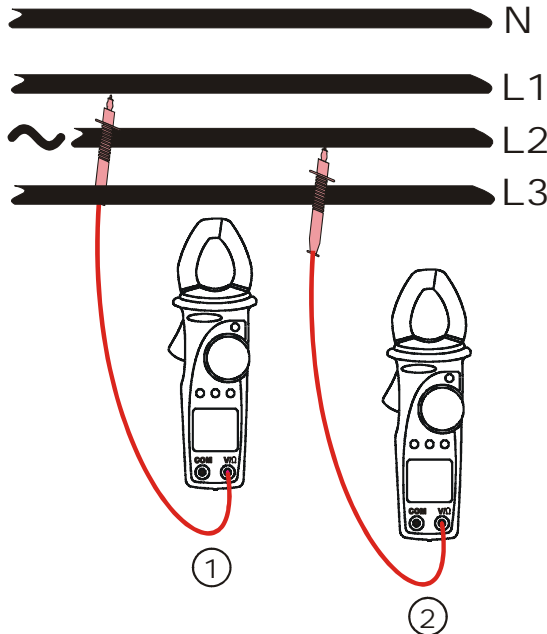
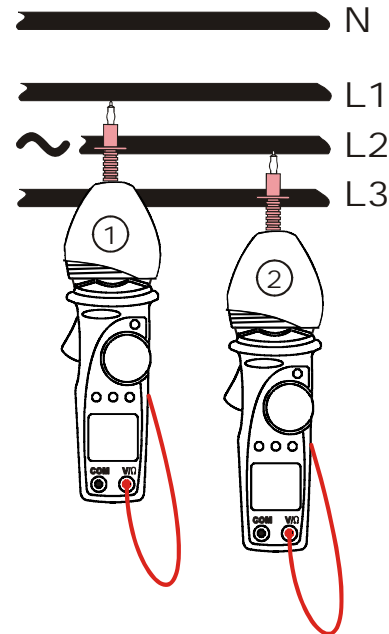

Fig. 14: phase rotation detection
Fig. 15: phase rotation detection with rubber cup
4. Connect the red terminal to the L1 phase conductor (see Fig. 14, 1st measurement). If necessary use the rubber test lead holster and insert the red test lead (see Fig. 15, 1st measurement).
9. Connect the test lead to the L2 phase conductor (see Fig. 14, 2nd measurement or Fig. 15, 2nd measurement).
9. Connect the test lead to the second cable (see Fig. 14, 2nd measurement or Fig. 15, 2nd measurement).